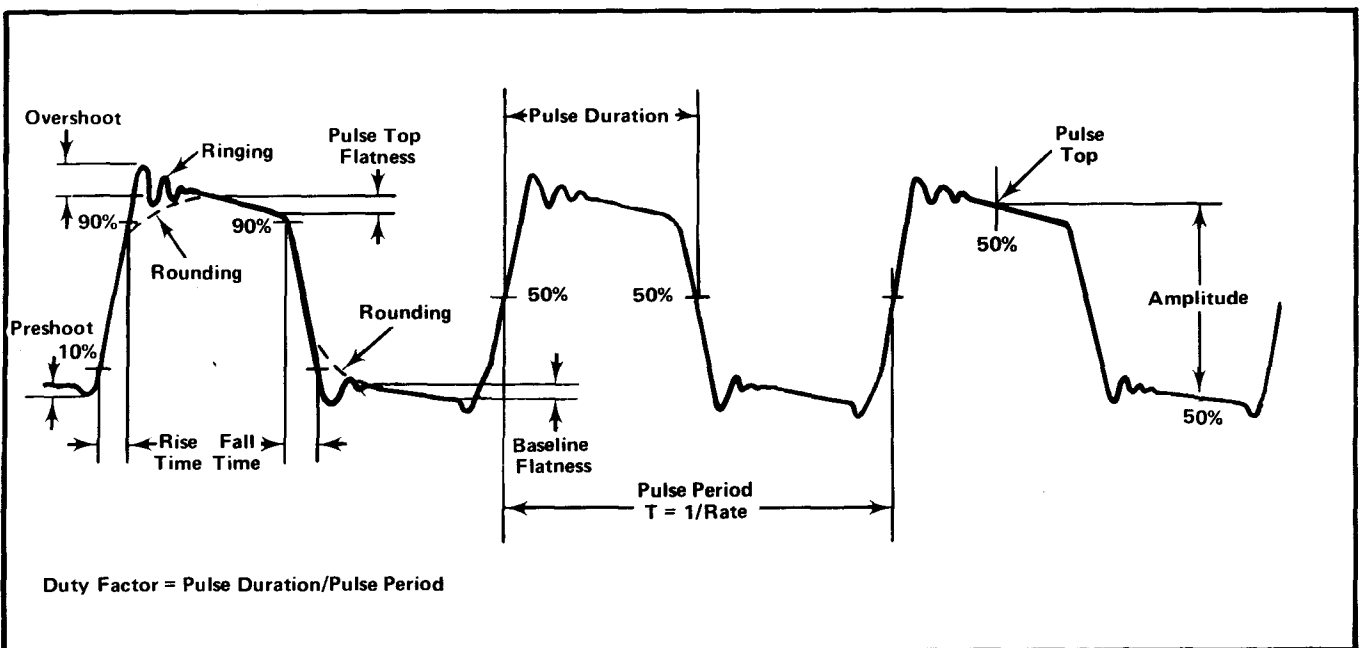

Fig. 1-4. Pulse characteristics.
The following is a glossary of common pulse characteristics used in this manual. They are also illustrated in Fig. 1-4.
**ABERRATIONS** (see Fig. 1-4): Within 3.5% at 5 V pulse amplitude.